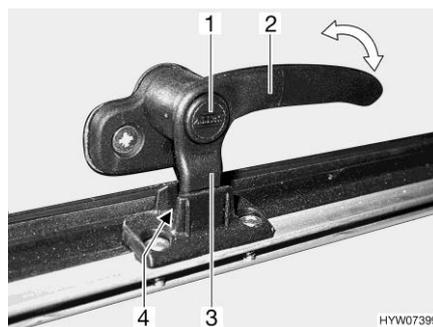
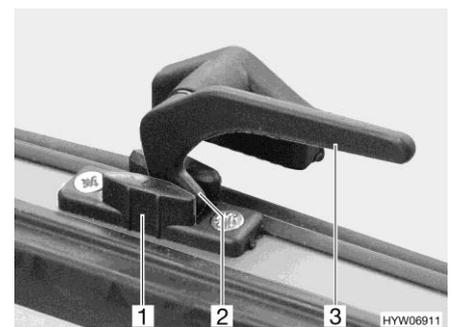

Fig. 97 Catch lever with safety knob in "continuous ventilation" position
Fig. 98 Catch lever in "continuous ventilation" position
- "Continuous ventilation" (Fig. 97 and Fig. 98)
- Press and hold the security button (Fig. 97,1), if present.
- Turn the catch lever (Fig. 97,2 or Fig. 98,3) a quarter turn towards the centre of the window.
- Return the catch lever to its initial position. Move the locking catch (Fig. 97,3 or Fig. 98,2) on the catch lever into the recess of the window catch (Fig. 97,4 or Fig. 98,1).